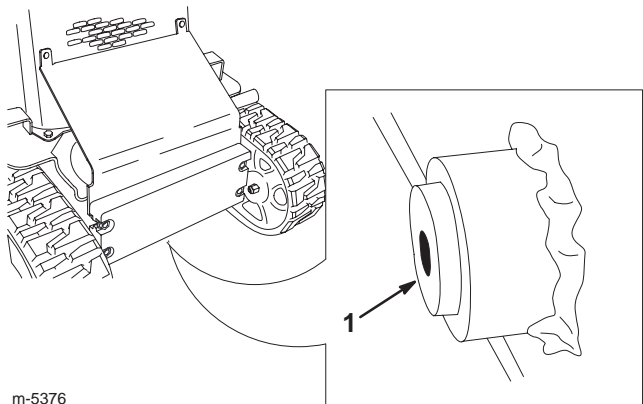

Figure 46
6. Place a large drain pan (capable of holding 15 gallons) under the drain plug on the front of the traction unit (Fig. 46).
7. Remove the drain plug and allow the oil to drain into the pan (Fig. 46).